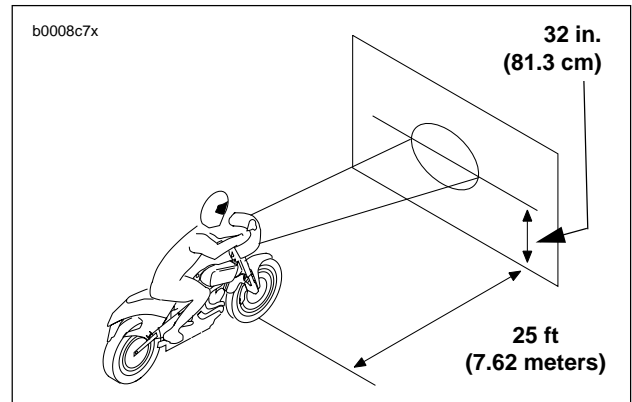

Figure 1-53. Checking Headlamp Alignment
3. See Figure 1-53. Position motorcycle 25 ft (7.62 meters) away from a screen or wall. Measure the distance from directly below the front axle to the base of the screen/wall.
1. Change height alignment by tilting headlamp up or down to aim it in relation to the horizontal line in Figure 1-53.